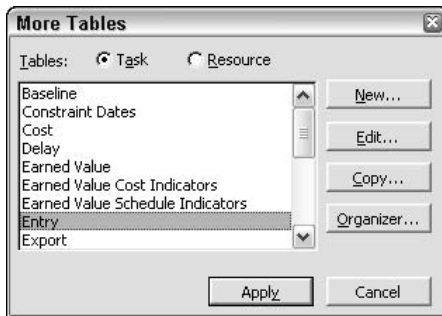

Figure 7-5: Select a table to use, edit, or copy from this dialog box.
1. Choose View→Table→More Tables. Project displays the More Tables window, as shown in Figure 7-5.